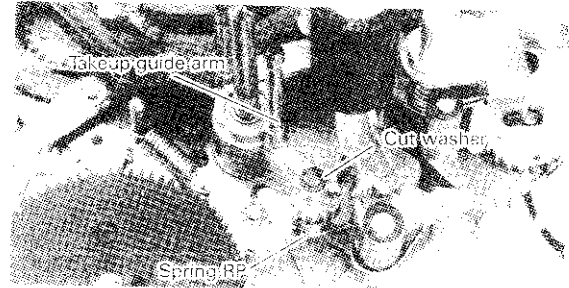

Fig.3-16-1
- (1) Remove the cassette housing.
- (2) Take off the cut washer which is fixing the Takeup guide arm. (See Fig. 3-16-1).
- (3) While pressing the spring RP, hold the Takeup guide arm upward to take it off the main plate.